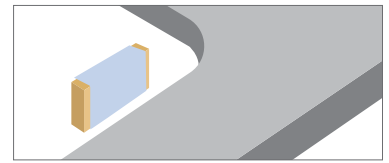

Fig.7
- Using a 150 grit sandpaper, sand the inside edge of the cut-out to remove cutting marks. (see Fig.7)